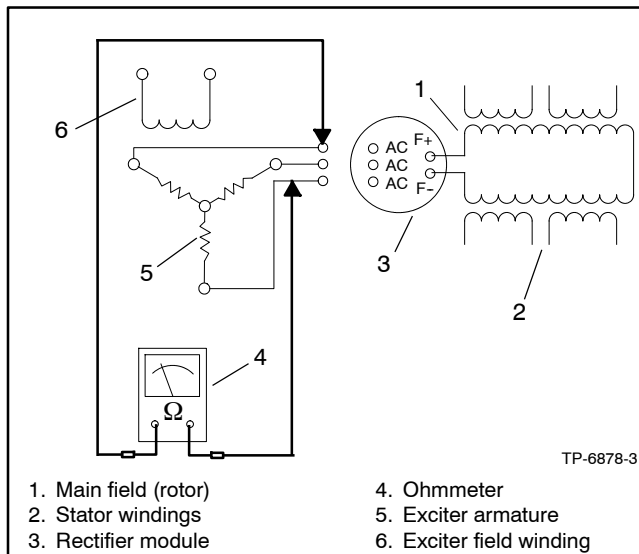

Figure 3-5 Exciter Armature Ohmmeter Test
3. With an ohmmeter on the R x 1 scale, check the resistance across the exciter armature leads. See Figure 3-5. See Section 1, Specifications, for the exciter armature resistance.